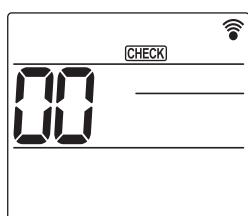

Fig. 6-8
- ① Turn on the power to the unit at least 12 hours before the test run.
- ② Press the **[MENU]** button for 5 seconds. (Fig. 6-8)